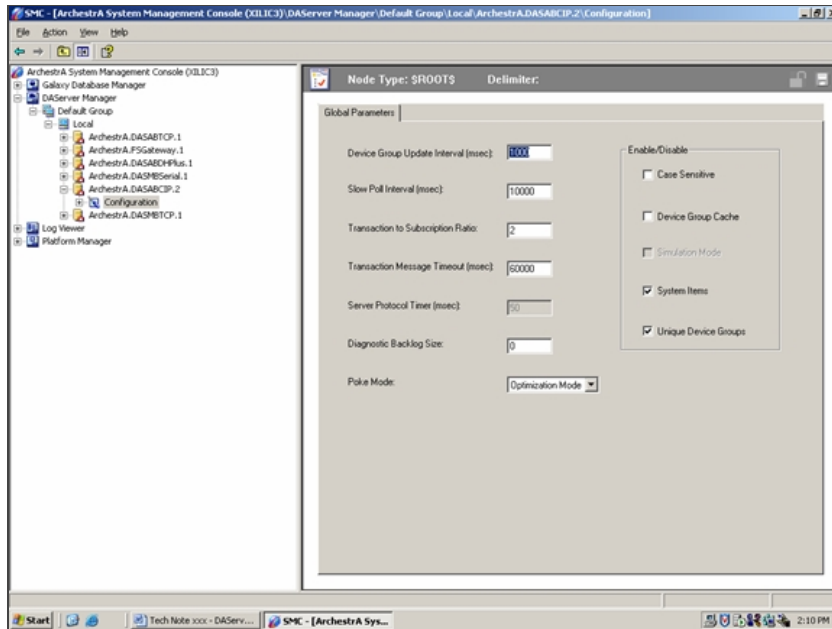

Figure 5: Global Parameter Settings
- Launch the SMC and select **DAServer Manager/Default Group/Local/<ServerName>/Configuration** (Figure 5 below).